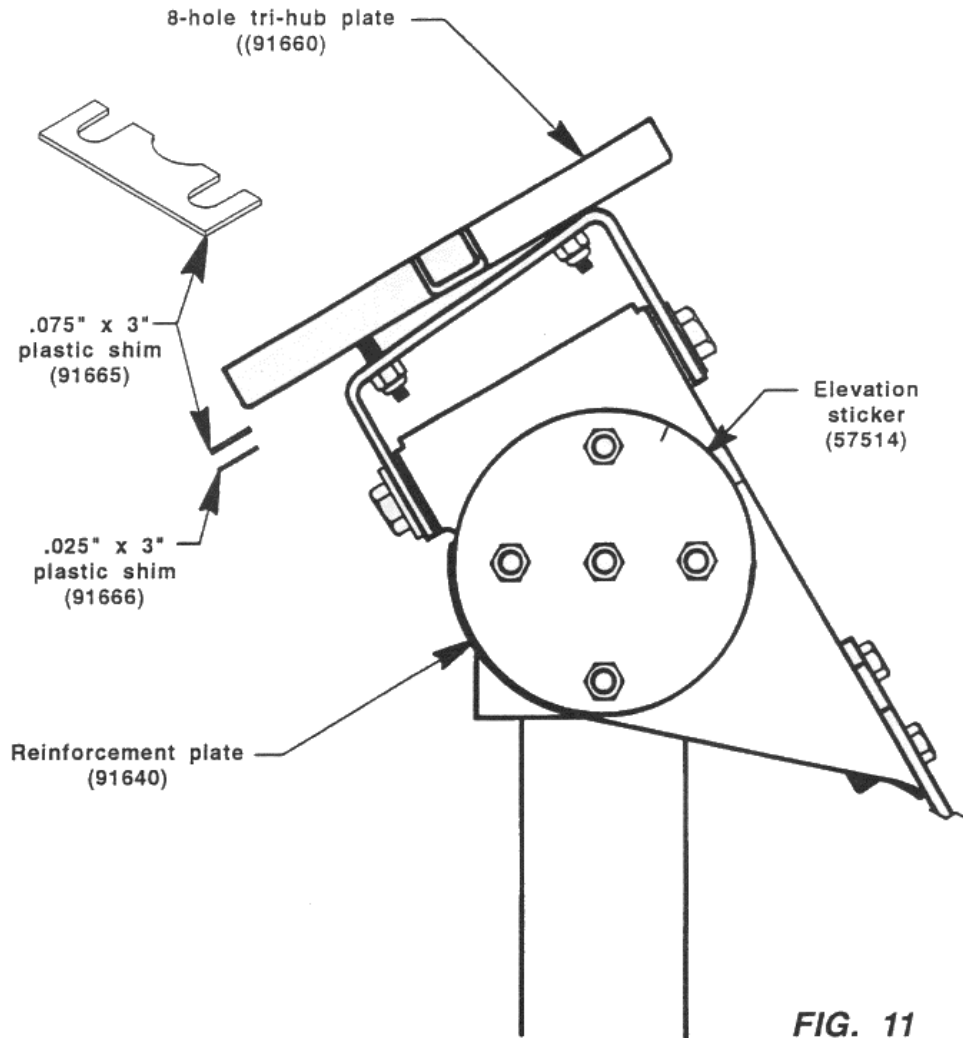
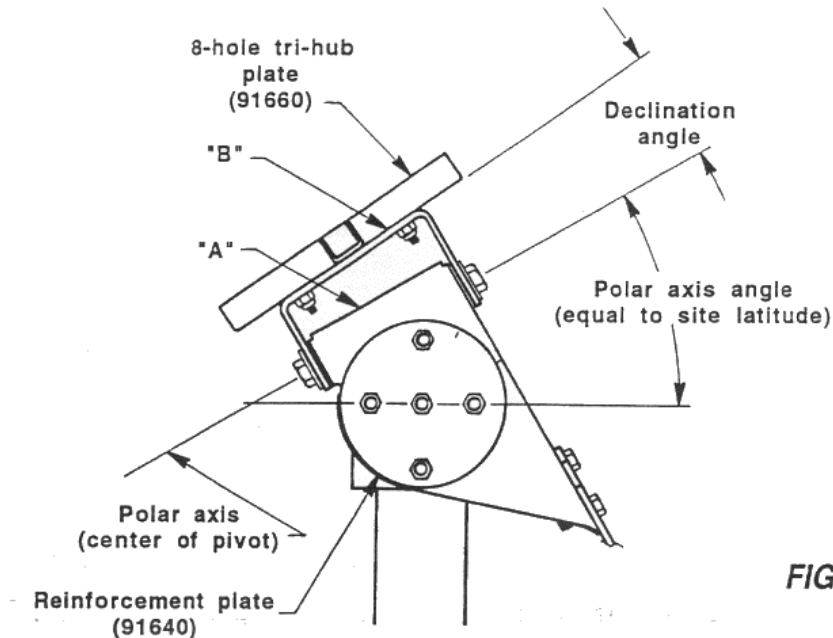

FIG. 11
FIG. 13
2. The antenna is preset with approximately 5° declination. For less than 5° declination, install plastic shim(s) on the bottom of the 8-hole tri-hub plate. (See Fig. 11) For more than 5° declination, install plastic shim(s) on the top of the 8-hole tri-hub plate. The $.075" \times 3"$ plastic
3. Using an inclinometer and the guidelines in the chart and Fig. 13 on the page 13, adjust the declination angle and polar axis angle (elevation) for your installation location. Elevation can be adjusted by slightly loosening the five $\frac{1}{2}"$ nuts on the reinforcement plate and turning the antenna using the sticker provided on the reinforcement plate as a reference. Tighten all associated hardware. (See Fig. 11)